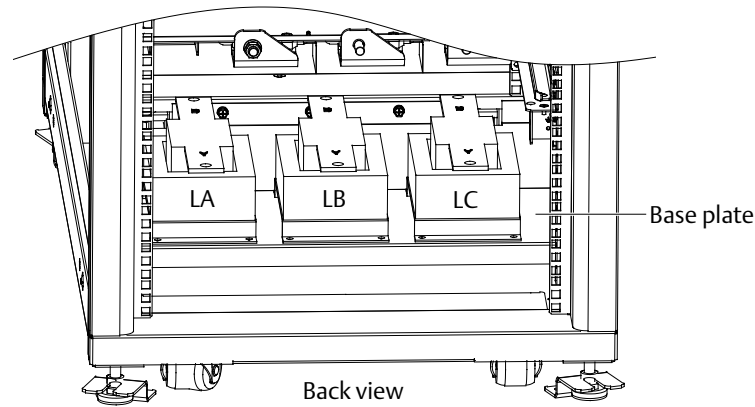

Figure 8-2 Installation positions of inductors
5. Place the three inductors LA, LB and LC in the installation positions shown in Figure 8-2, and fix them on the base plate of the UPS cabinet with twelve M6 × 12 screws.